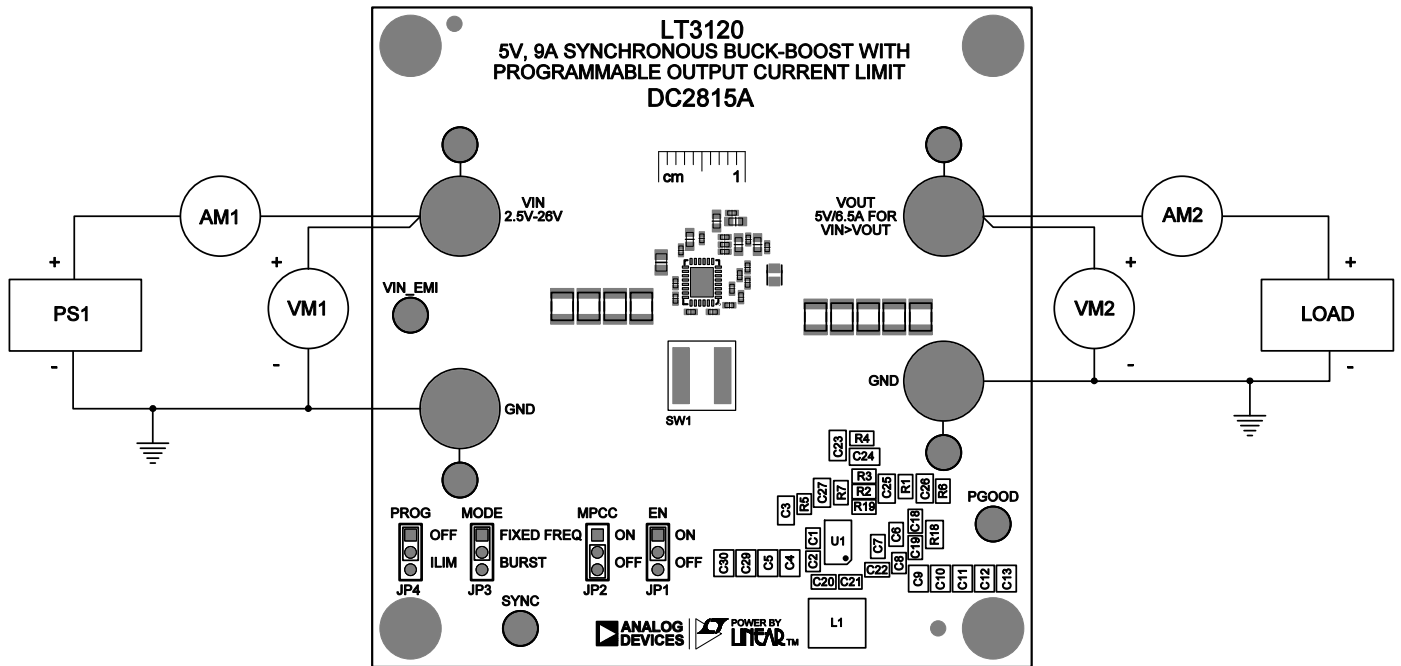

Figure 1. Test Procedure Setup Drawing for DC2815A
Using short twisted pair leads for any power connections and with all loads and power supplies off, refer to Figure 1 for the proper measurement and equipment setup. The Power Supply (PS1) should not be connected to the circuit until told to do so in the procedure below.
- JP1 (EN) = ON
2. With power OFF connect the power supply (PS1) as shown in Figure 1. If accurate current measurements are desired (for efficiency calculations for example) connect an ammeter in series with the supply as shown. The ammeter is not required however.
5. Connect a 5A load to VOUT as shown in Figure 1 (1Ω for $V_{OUT} = 5V$). Connect an ammeter if accurate current measurement or monitoring is desired.